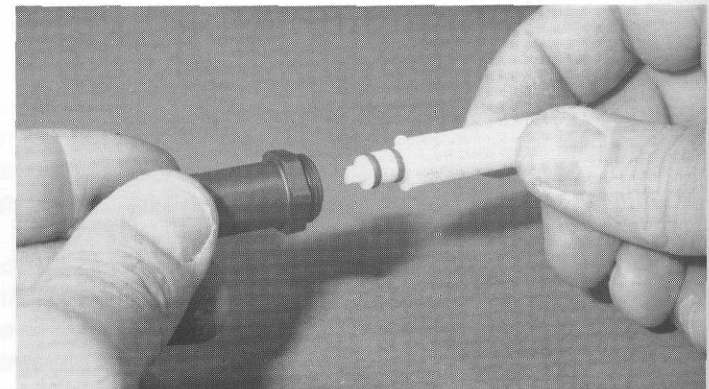

**Fig. 117**
□ **Figs. 117 & 118** From bag #6-9 (in the main shock bag) remove the two #6435 1.32" stroke rear hard anodized shock bodies. From bag #6-10 (in the main shock bag) remove the two #6437 .71" stroke front hard anodized shock bodies. Put a few drops of silicone oil into the bottom of each #6435 and #6437 shock body as it is being assembled. This makes installation of the internal parts easier. It is very important that we do not accidentally cut or damage the red O-rings as they are being installed.